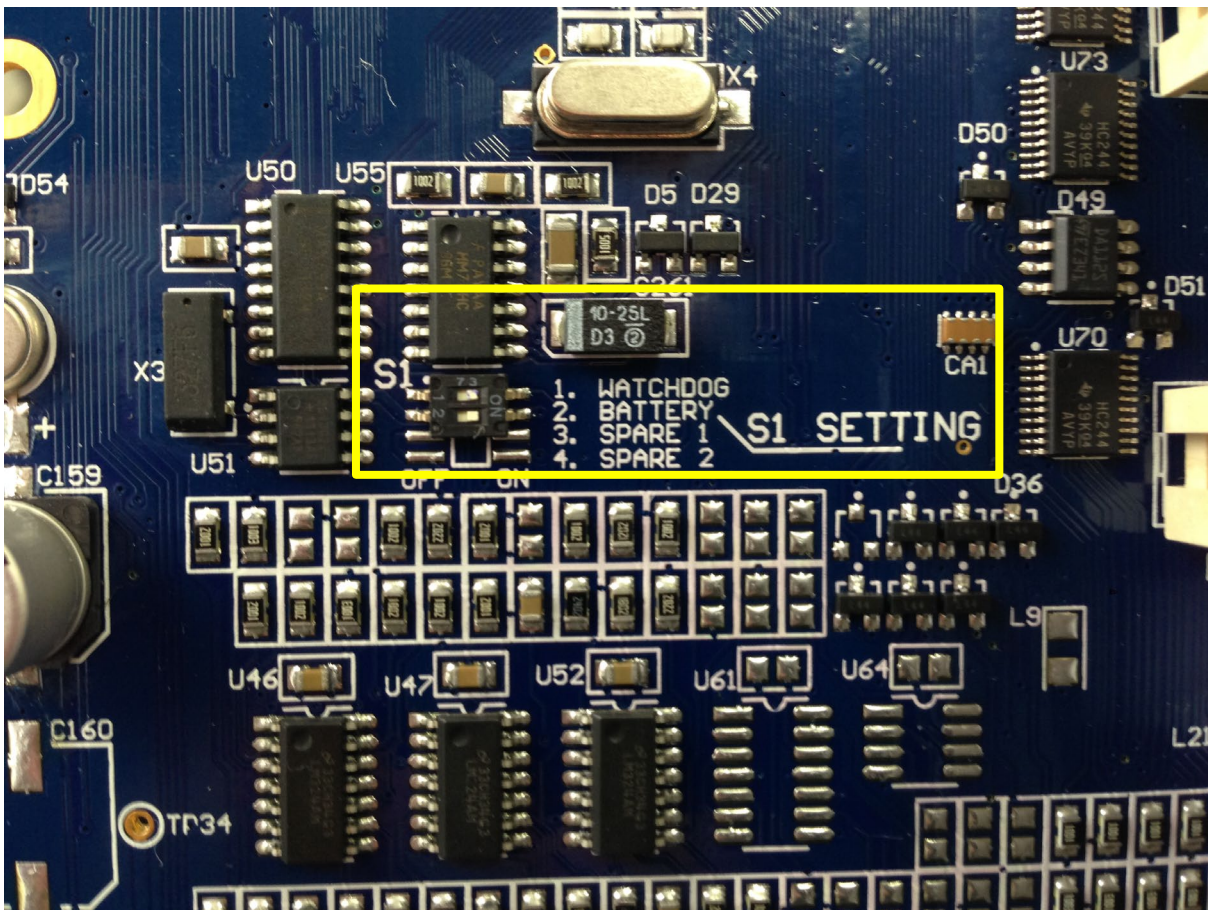

Figure 18 – Switching the Battery On/Off
2. Check the battery switch is turned to on. It is located under the main controller PCA (refer to Figure 18).
3. If storing over a long period (6 months) turn the battery off by switching the switch (S1) on the main controller PCA to off (refer to Figure 18).